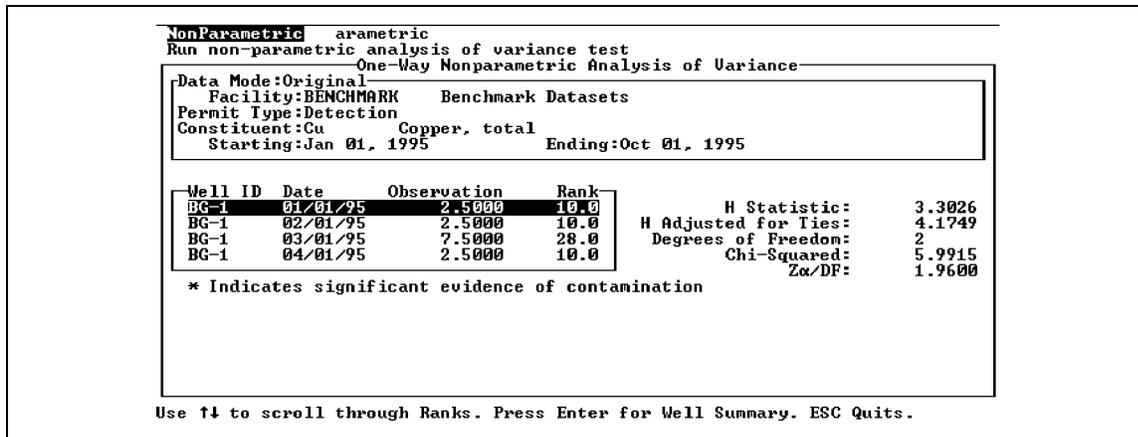

Figure 5-131. The One-Way Non-parametric Analysis of Variance window and Rank Summary.
4. Press <N> to execute the NonParametric option of the ANOVA menu. The One-Way Non-parametric Analysis of Variance window and Ranks Summary appears on your screen as shown in Figure 5-131. The statistics shown in the One-Way Non-parametric Analysis of Variance window are described in Table 5-37.